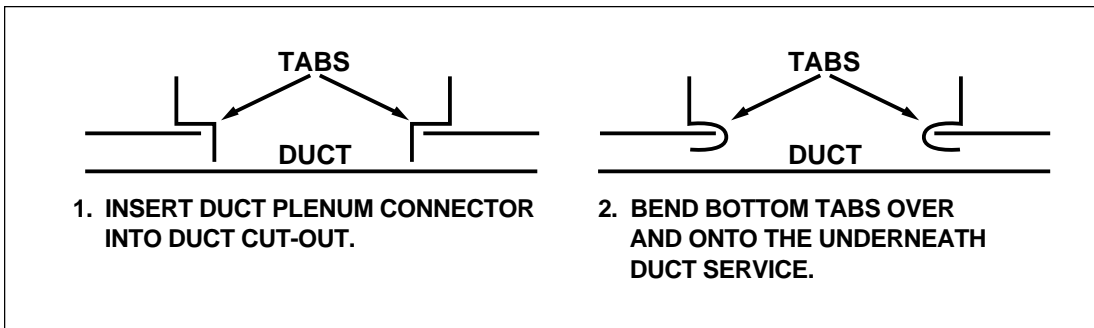

Figure 11. Installation of Duct Connector
- Bend bottom tabs under and up tightly against the supply air duct (See Figure 11).